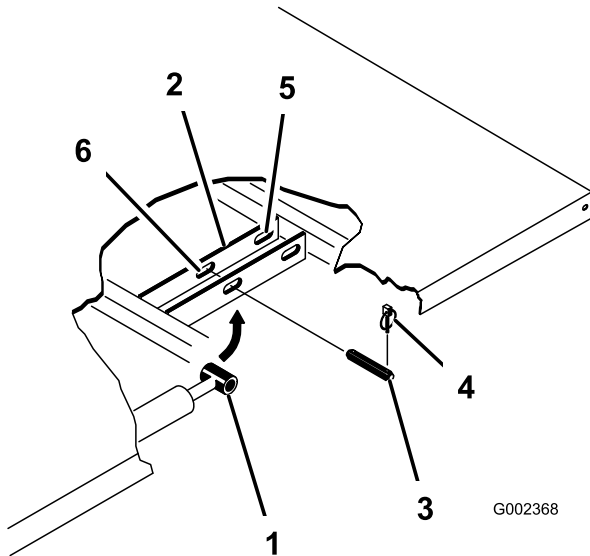

Figure 11
2. Remove lynch pins from outer ends of cylinder rod clevis pins (Figure 11).